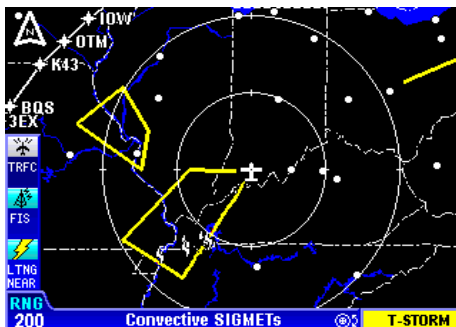

Figure 2-43
1. Press the **WX** Function Select Key until the FIS Graphics Page is displayed. If necessary, turn the Rotary Knob to obtain the Graphical Convective SIGMETs display similar to Figure 2-43. **Convective SIGMETs** will be displayed at the bottom of the display.